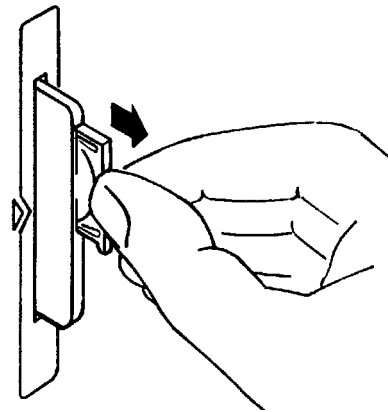

Figure 22 Replacing the Memory Card's Battery
2. Hold the memory card in the slot with one hand and pull the battery holder out with your other hand. (See figure 22 .)